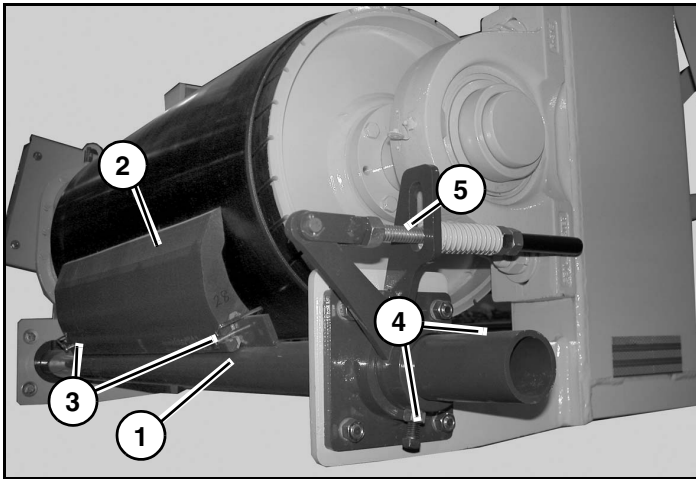

Figure 4
- Insert the blade shaft (Item 1) (**Figure 4**) into the mounting brackets.
- Position the blade (Item 2) (**Figure 4**) on the blade shaft with the blade curve facing the conveyor belt.
- Insert lock pins (Item 3) (**Figure 4**) through the blade shaft and blade.
- Rest the blade against the belt and tighten the set screws (Item 4) (**Figure 4**) on the tensioner. There should be approximately 2"- 3" of adjustment on the tension rod (Item 5) (**Figure 4**) before the set screws are tight to allow for proper tensioning of the blade.